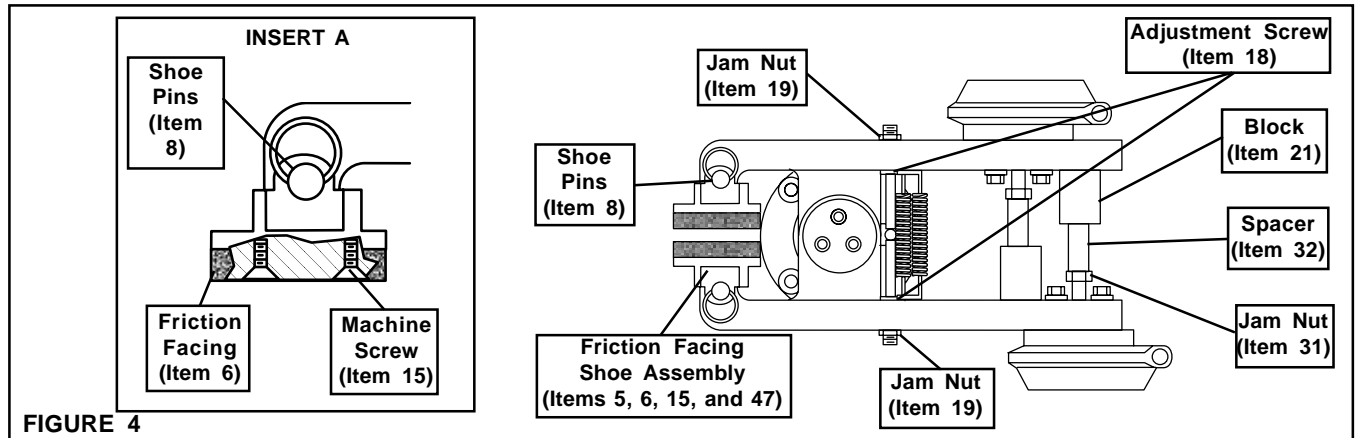

FIGURE 4
1. Remove the Shoe Pins (Item 8) (See Figure 4).
2. Remove the Friction Facing Shoe Assembly (Items 5, 6, 15, and 47) (See Figure 4).
3. Remove the old Machine Screws (Item 15) and old Friction Facings (Item 6) (See Figure 4).
4. Using new Machine Screws (Item 15), install new Friction Facings (Item 6) (See Figure 4).
6. Reinstall the Friction Facing Shoe Assembly (Items 5, 6, 15, and 47) (See Figure 4).
7. Reinstall the Shoe Pins (Item 8) (See Figure 4).